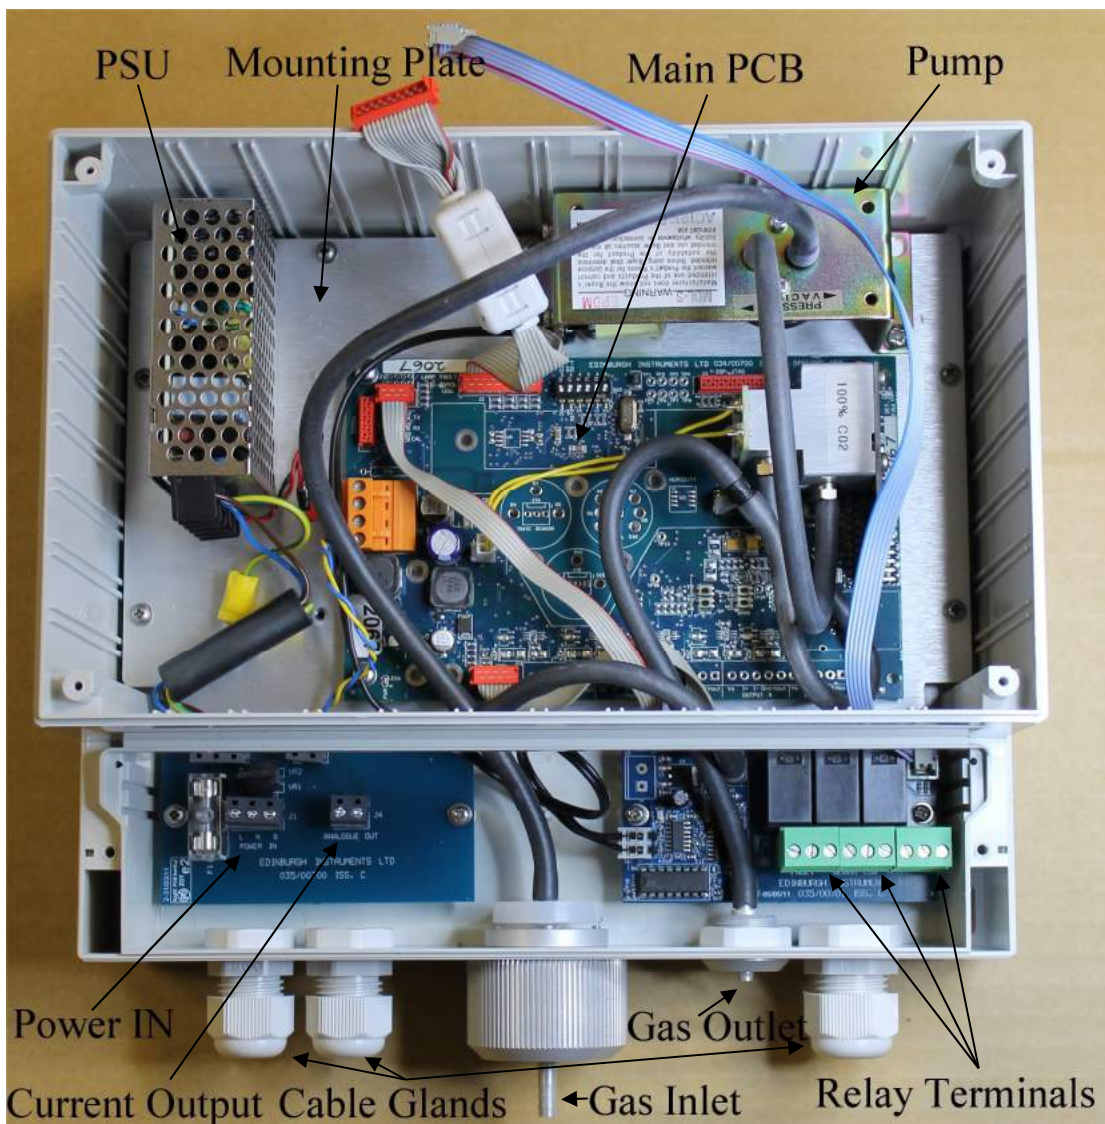

Figure 19: Guardian NG Internal View
- 9 i) Unscrew the knurled gas inlet/filter housing (Shown in Figure 19) to access to the particle filter capsule
Removal of the front panel allows access to the other PCB's sufficient to perform most service operations (primary fuse replacement, pump replacement, secondary filter replacement). For more major repairs, it may be necessary to remove the main mounting plate (see Figure 19).
There are two fuses in the Guardian NG; one is located on the main PCB (see Figure 19) and one on the Power supply PCB. When replacing the mains fuse, use only 20 mm, anti-surge fuses (indicated by the character T before or after the fuse rating). Other faster fuses may blow during switch-on. Fuse details
The pump is located on the Mounting Plate (Figure 19) and may be replaced as follows: